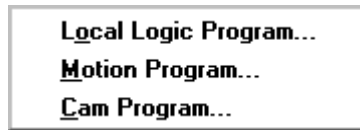

Figure 10-11. New Motion Submenu
**New Motion** opens a sub menu that allows the user to create a new Local Logic, Motion, or Cam program. The sub menu is shown in Figure 10-11.